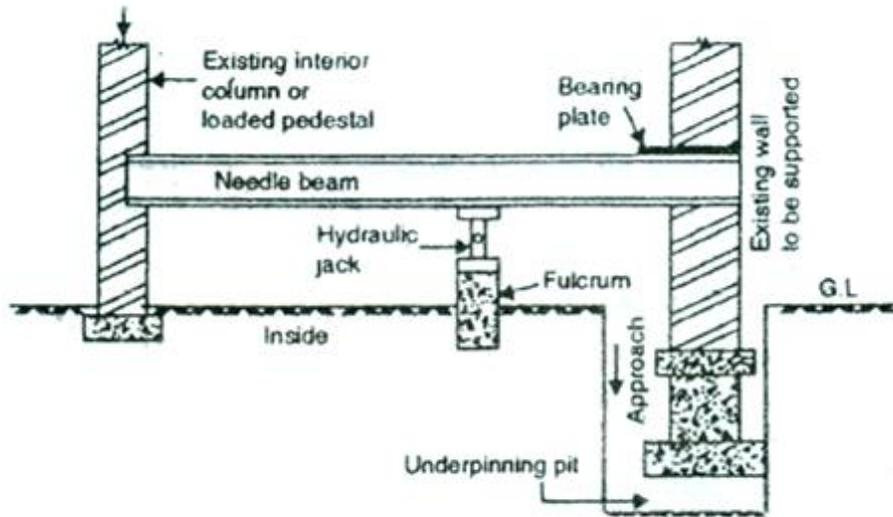

Fig. 4.17: Pit method with Cantilever needle
- If an interior strong column resists, or if the foundation is to be extended only to one side, cantilever needle beam may be used in the place of central needle beam, as shown in Fig. 4.17. Jack is placed between the column and the wall.